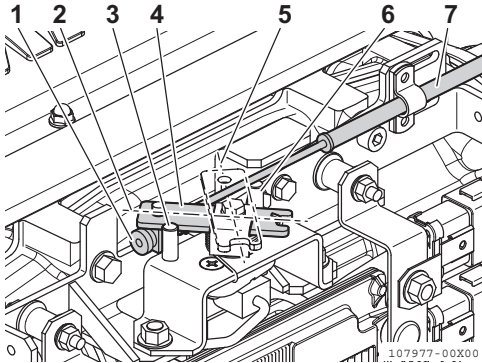

Figure 4
1. To adjust, loosen the adjustment screw (**Figure 4, (1)**) for the remote control cable and adjust.
2. Adjust the low-speed stop position (**Figure 4, (2)**) first and then adjust the high-speed stop position (**Figure 4, (5)**), with the adjustment screw on the remote control lever (**Figure 4, (4)**).